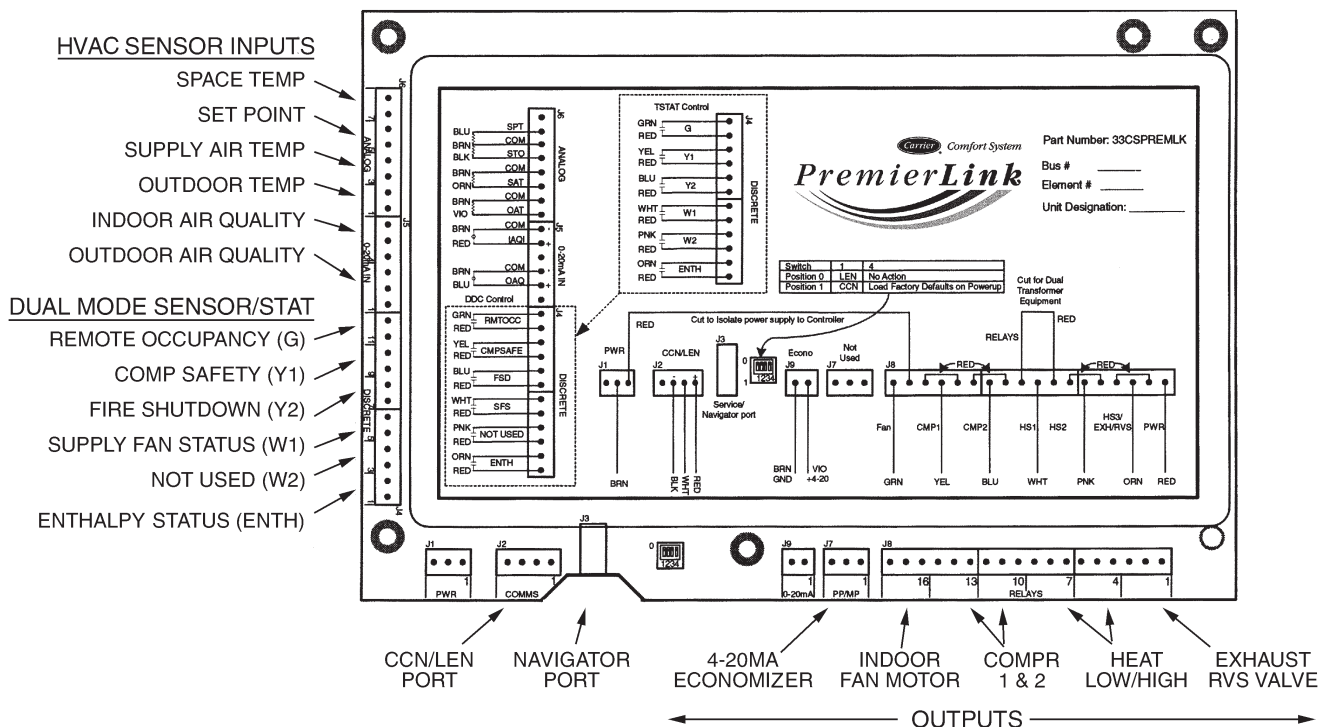

Fig. 41 - PremierLink Controller
The PremierLink controller (see Fig. 41) is compatible with Carrier Comfort Network® (CCN) devices. This control is designed to allow users the access and ability to change factory-defined settings, thus expanding the function of the standard unit control board. CCN service access tools include System Pilot (TM), Touch Pilot (TM) and Service Tool. (Standard tier display tools Navigator™ and Scrolling Marquee are not suitable for use with latest PremierLink controller (Version 2.x).)